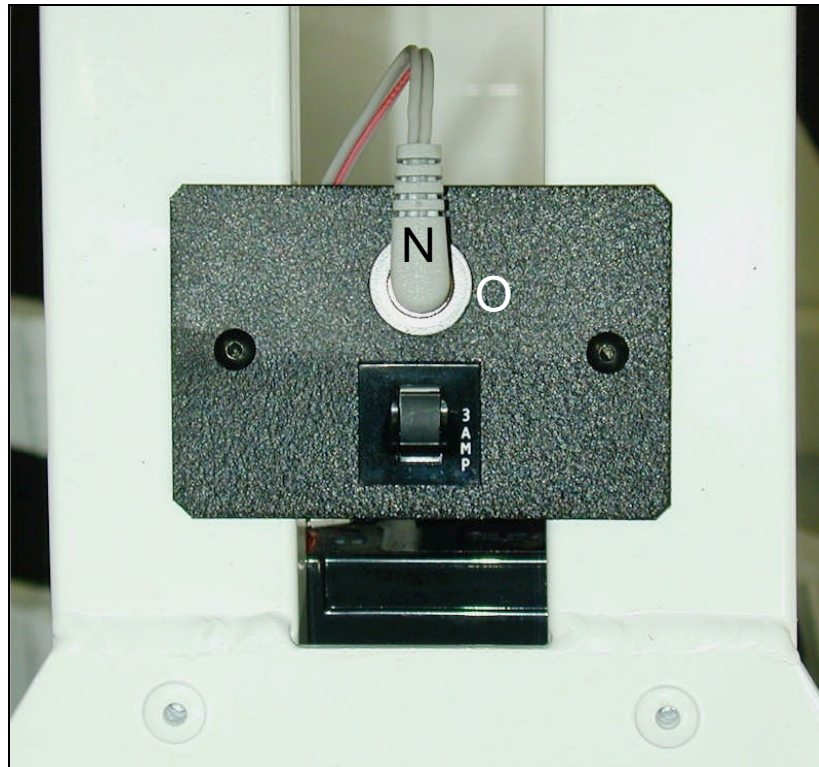

Figure 12
The power cable (N) comes out of the centerpiece opposite the encoder cables (see Figure 12). Plug the power cable into the power jack (O). You can now test all the motors, but try not to move them too far in either direction as they have been set up at the factory to be very close to the position where you will need them. To charge the battery, plug the charger cable into the power jack (O) and leave it plugged in overnight.